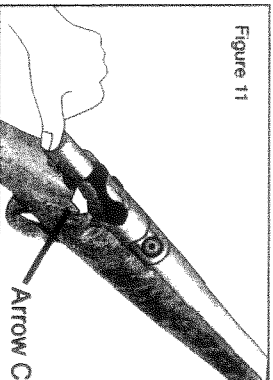
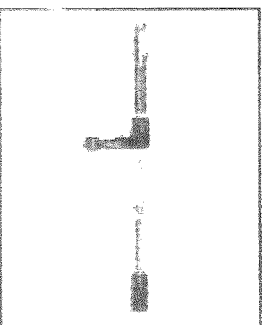

Figure 11
Figure 14
1. With the Bolt Assembly in the cocked position, align the bolt assembly in the same position as when removed in Figure 14. Using the thumb, push forward on the Bolt Cap, past the initial resistance, until the Bolt Assembly stops (Figure 11).
5. Reassemble bolt body, bolt handle, striker, and spring (Figure 14).